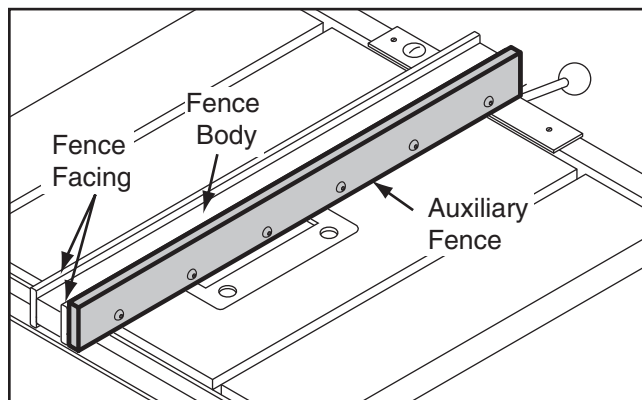

Figure 64. Auxiliary fence.
4. Attach the fence face (removed in **Step 2**) and the auxiliary fence to the fence body with (6) #8 x 2" wood screws. The end result should be similar to **Figure 64**.